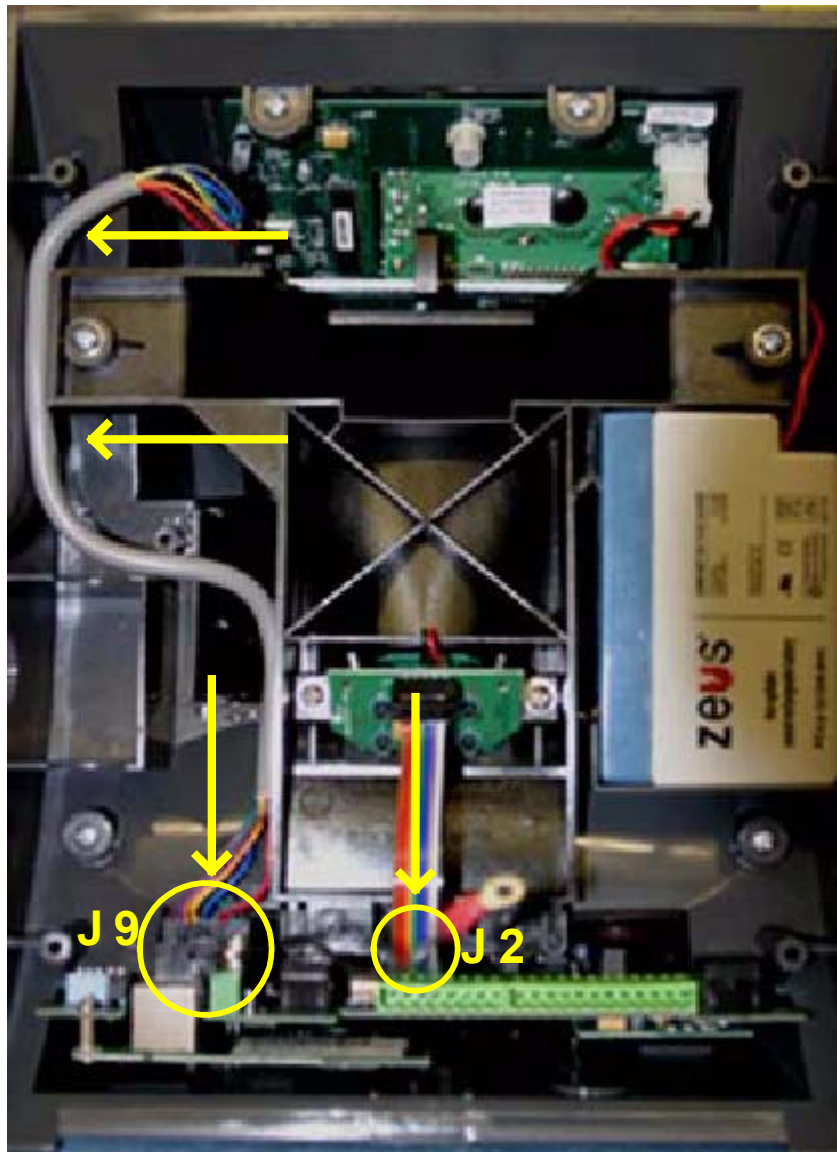

Figure 2
8. Locate the cable that on the left side of the HandReader that runs from the top panel circuit board to the main circuit board. Disconnect this cable from J9 on the main circuit board. See figure 2. To remove the (J9) connector on the main circuit board, depress the retaining clip on the connector and pull upwards. **Take care to pull on the connector and to not pull on the cable.**
9. Carefully slide out the main circuit board about 1" until the ribbon cable between the camera assembly and J2 on the main circuit board can be detached from J2. Gently pull up on the connector, being careful to not disturb the camera assembly. See figure 2
18. Locate the cable that runs from the top panel circuit board to the main circuit board. Connect this cable to J9 on the main circuit board. See figure 2 for cable routing. Make sure that the cable is seated below the back plate standoffs or else the cable will get pinched when the back plate is re-installed.